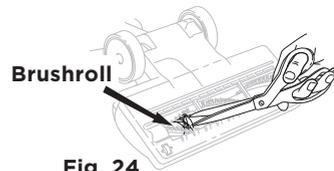

Fig. 24
- 2 Inspect the airway and the brushroll. Remove any debris buildup. With scissors, carefully cut away any fibers or hair wrapped around the brushroll. Avoid damaging or cutting the bristles. **(Fig. 24)**